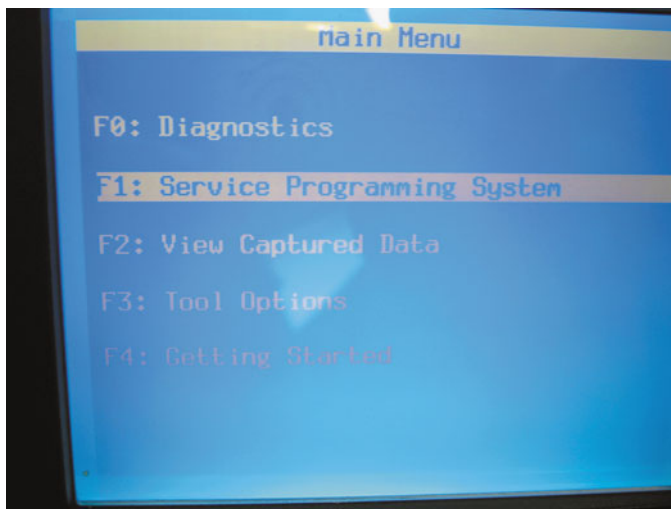

FIGURE 30-18 Follow the on-screen instructions.
- Enter the vehicle information into the scan tool through the programming application software incorporated in the scan tool. ● **SEE FIGURE 30-18.**